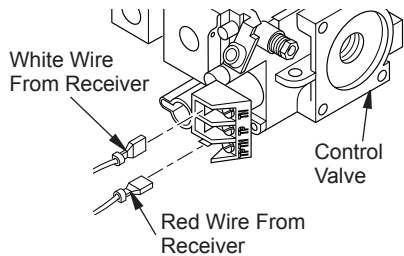

Figure 21 - Connecting Wires
9. Connect wires to control valve at the TPTH and TH locations as shown in Figure 21.